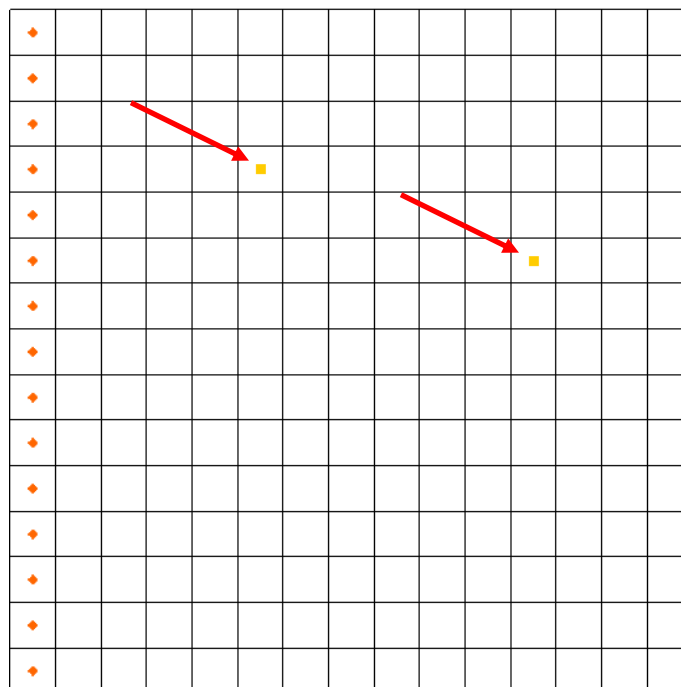

Figure 8 Location of the wells in layer 2
2. Using the **Select Cells**  tool while holding down the *Ctrl* key, select the cells shown in Figure 8 (the two cells containing yellow squares, indicated by red arrows). The coordinates of each well are shown in the table to the right.